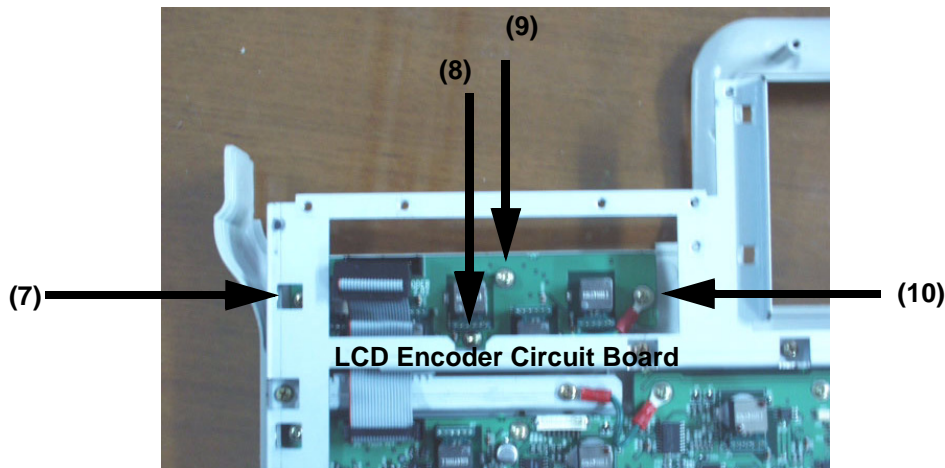

Figure 8-46    Unscrew 4 screws from LCD Encoder Circuit Board
3.) Unscrew four (4) screws (7-10) to remove the LCD encoder Assy. Refer to Figure 8-46.